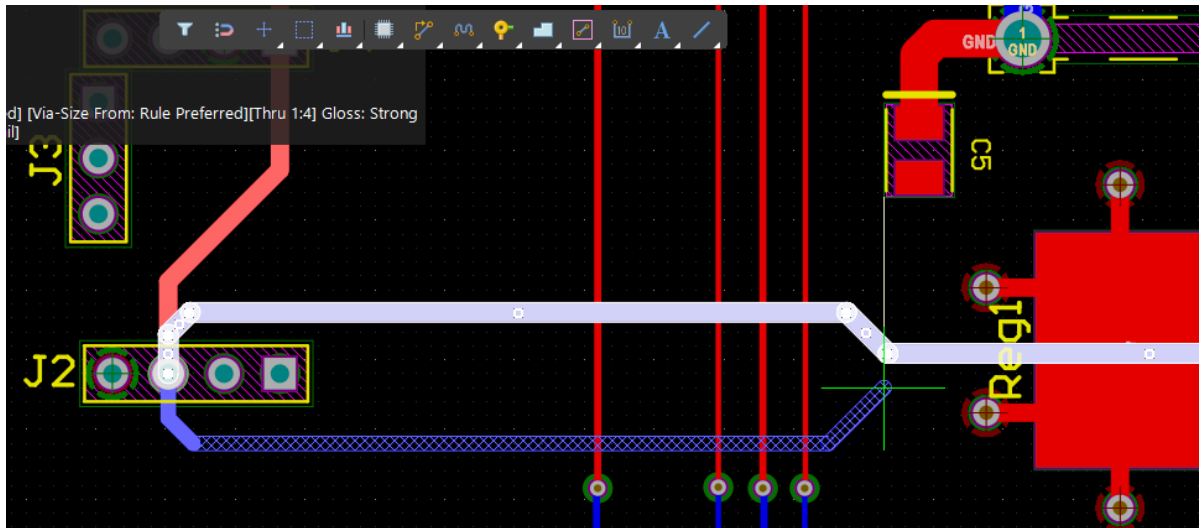

Figure 12. Parallel Routing with remove Loop
34. If you need to adjust a route rather than deleting it, we can route it again. *Automatic Loop Removal* will remove the old redundant tracks automatically. A good connection to try this on is the portion of tracks on the Bottom Layer between J3 and C6, Figure 12.